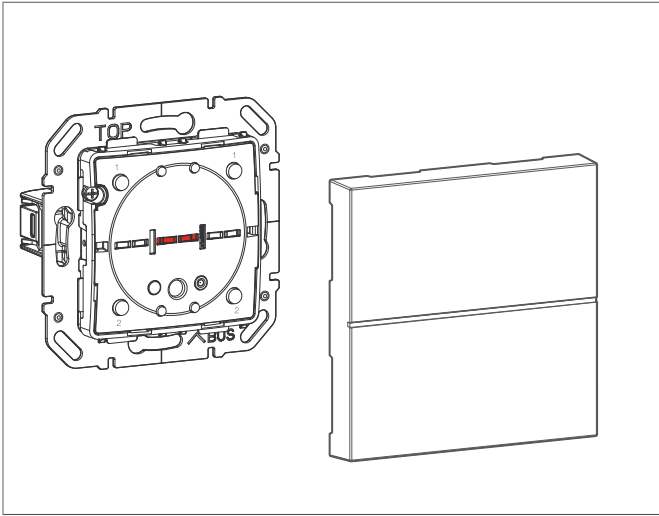
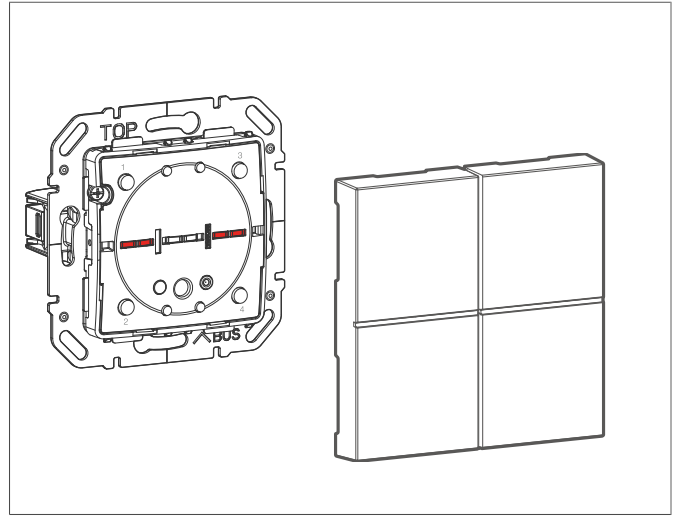

Fig. 2: Push button, 1-gang cover with 2 buttons
Fig. 3: Push button, 2-gang cover with 4 buttons
- Status LED depending on the version of the device (Fig. 2 and Fig. 3)